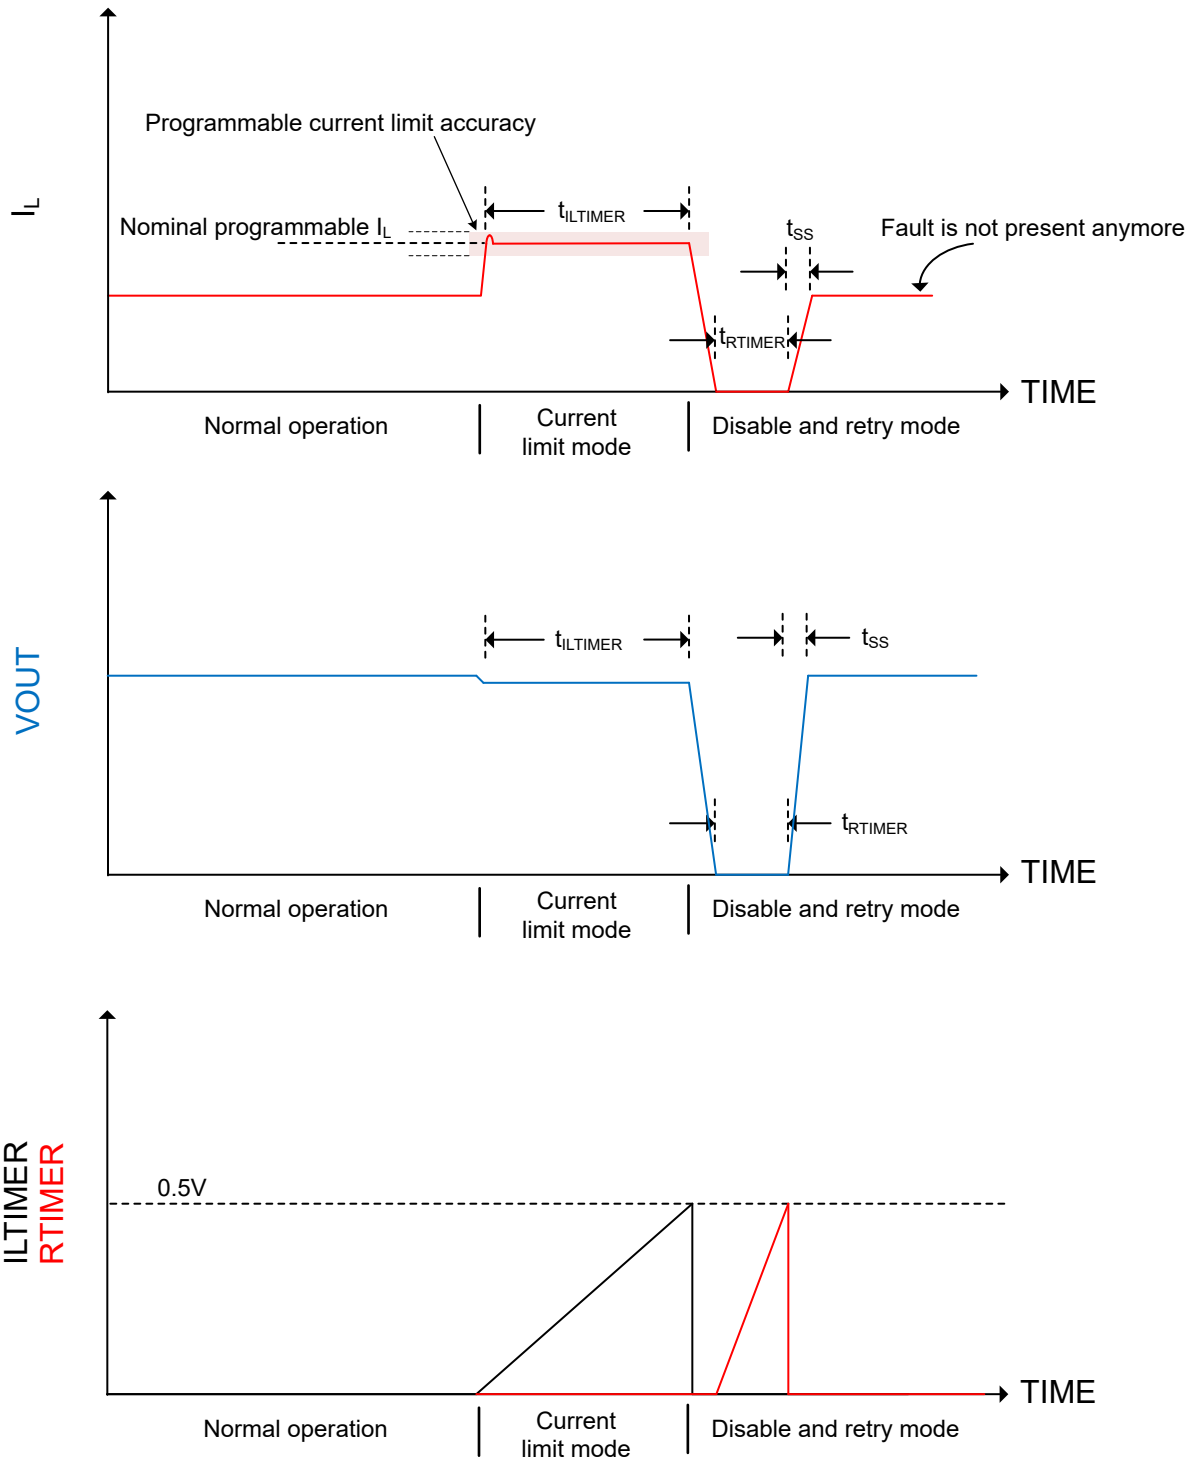

Figure 8-3. Soft Short Programmable Fault Timer Operation Connecting Capacitors to ILTIMER and RTIMER Pins
A current limit can be programmed using an external resistor connected from the IL pin to GND. This programmed current limit ($\pm 20\%$ accurate) refers to the continuous current through the device and therefore, when operated at the maximum current rating (6A), the programmed current limit needs to be set 20% higher. The programmable current limit protects against soft shorts as shown in Figure 8-3. Calculate the current limit resistor value, R_{IL} , in ohms using Equation 7 for $V_{IN} \leq 3V$, and Equation 8 for $V_{IN} > 3V$, where I_L is the programmed current limit value in amperes.
- Figure 8-3: Single soft short event using the current limit timer and the retry timer.
The behavior of the ILTIMER and RTIMER pins for a soft short (one in which the programmable current limit is reached and responds) is shown in Figure 8-3. In this figure, the fault is assumed to not be present after the switch has been disabled and enabled again (retry mode). If the fault is present after the retry mode, the device goes into current limit mode and this cycle repeats until the fault is no longer present.